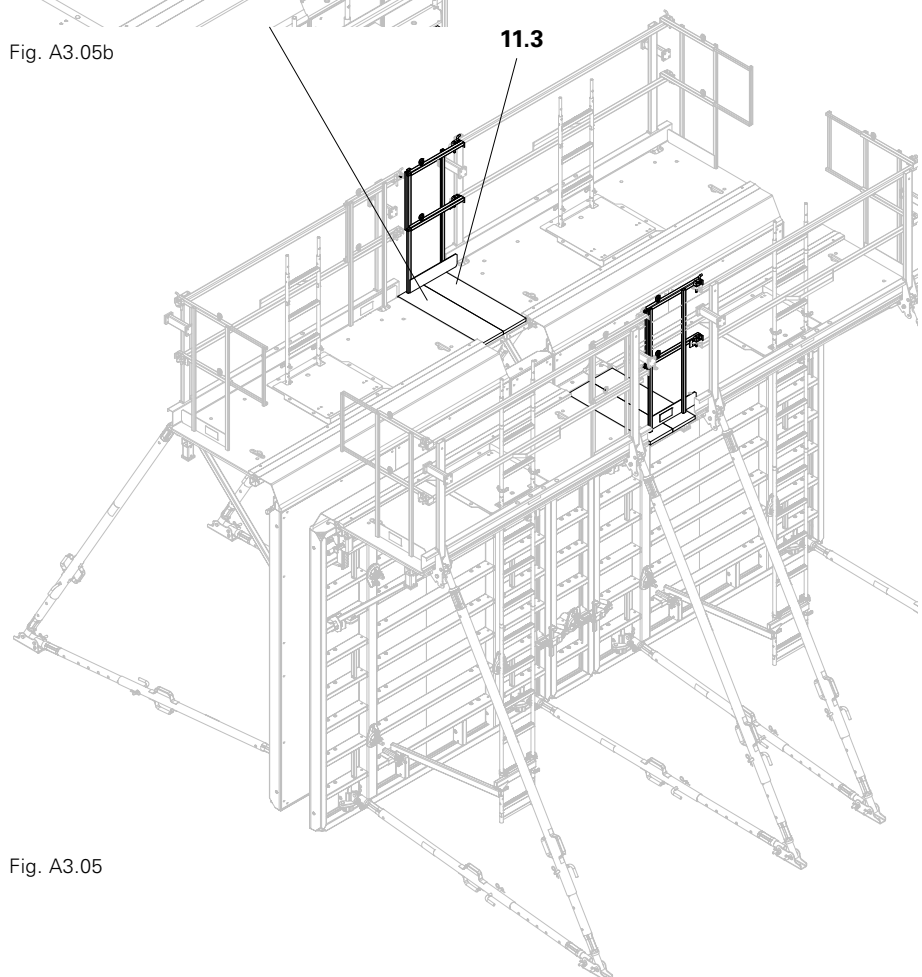

Fig. A3.05
4. Position covering (11.3) provided by the contractor and secure with nails. (Fig. A3.05)